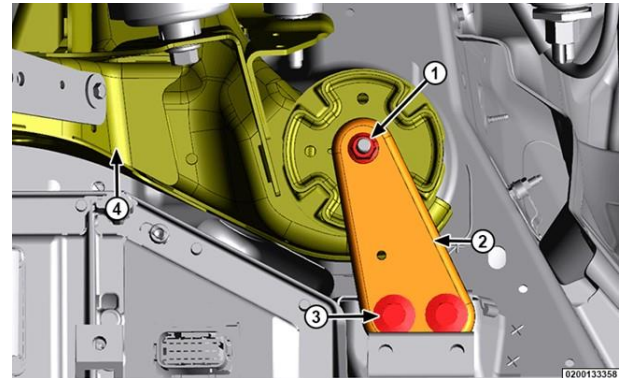

Figure 20 – Cradle Mount Bracket
- 49. Right side of vehicle: Remove the cradle bracket nut (1) (Figure 20).
- 50. Remove the cradle mount bracket bolts (3) and remove the brackets (Figure 20).